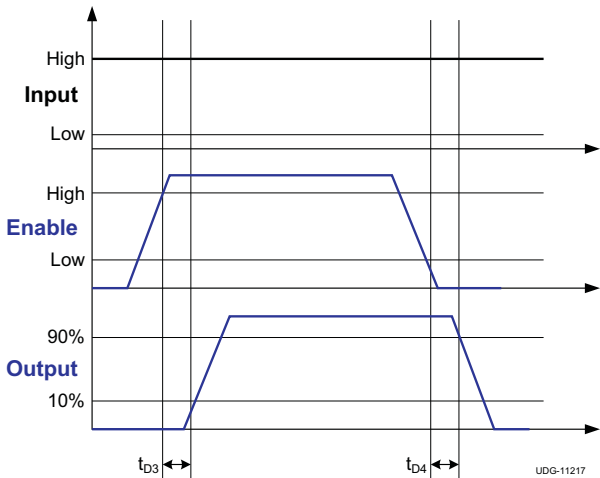
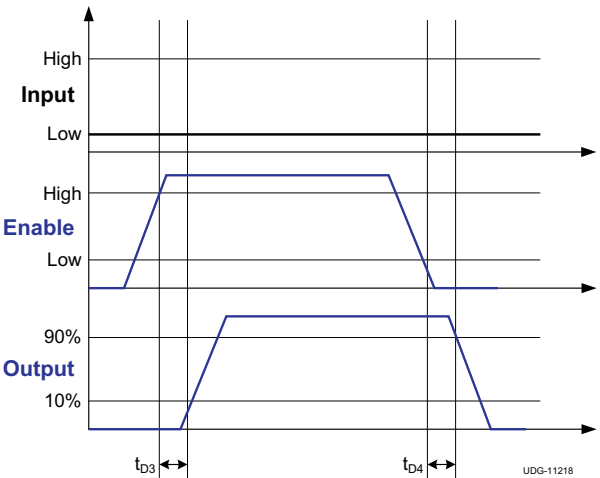
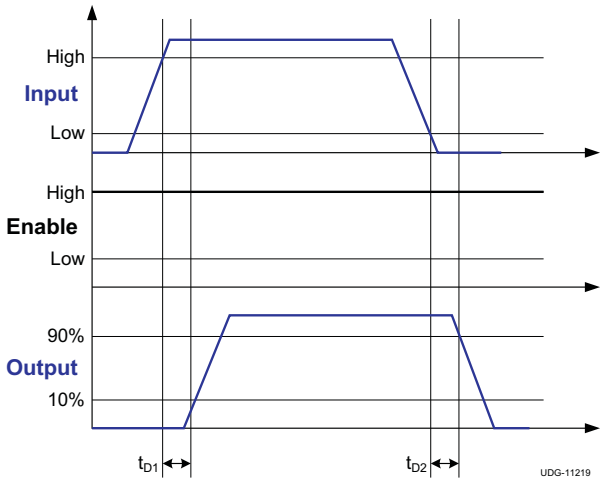
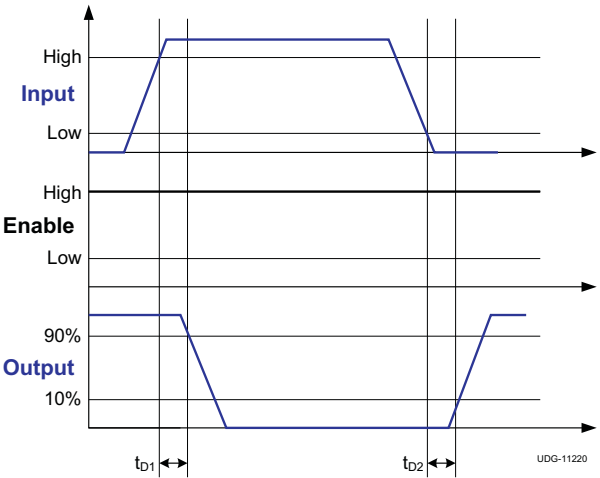

Figure 1. Enable Function
Figure 2. Enable Function
Figure 3. Non-Inverting Input Driver Operation
Figure 4. Inverting Input Driver Operation
(1) See timing diagrams in Figure 1, Figure 2, Figure 3, and Figure 4